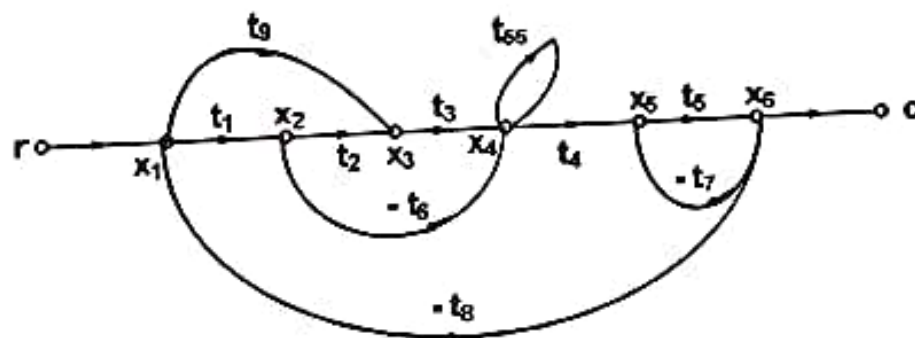

Fig.6.1. Example of a SFG model
**Input or source node:** It is a node that has only outgoing branches i.e. node 'r' in Fig.6.1.
**Output or sink node:** It is a node that has only incoming branches i.e. node 'c' in Fig.6.1.
**Chain node:** It is a node that has both incoming and outgoing branches i.e. nodes ' $x_1$ ', ' $x_2$ ', ' $x_3$ ', ' $x_4$ ', ' $x_5$ ' and ' $x_6$ ' in Fig.6.1.
**Gain or transmittance:** It is the relationship between variables denoted by two nodes or value of a branch. In Fig.6.1, transmittances are ' $t_1$ ', ' $t_2$ ', ' $t_3$ ', ' $t_4$ ', ' $t_5$ ' and ' $t_6$ '.
**Forward path:** It is a path from input node to output node without repeating any of the nodes in between them. In Fig.6.1, there are two forward paths, i.e. path-1: ' $r-x_1-x_2-x_3-x_4-x_5-x_6-c$ ' and path-2: ' $r-x_1-x_3-x_4-x_5-x_6-c$ '.
**Feedback path:** It is a path from output node or a node near output node to a node near input node without repeating any of the nodes in between them (Fig.6.1).
**Loop:** It is a closed path that starts from one node and reaches the same node after trading through other nodes. In Fig.6.1, there are four loops, i.e. loop-1: ' $x_2-x_3-x_4-x_2$ ', loop-2: ' $x_3-x_4-x_5-x_3$ ', loop-3: ' $x_1-x_2-x_3-x_4-x_5-x_6-x_1$ ' and loop-4: ' $x_1-x_3-x_4-x_5-x_6-x_1$ '.
**Self Loop:** It is a loop that starts from one node and reaches the same node without trading through other nodes i.e. loop in node ' $x_4$ ' with transmittance ' $t_{55}$ ' in Fig.6.1.
**Path gain:** It is the product of gains or transmittances of all branches of a forward path. In Fig.6.1, the path gains are  $P_1 = t_1 t_2 t_3 t_4 t_5$  (for path-1) and  $P_2 = t_1 t_3 t_4 t_5$  (for path-2).
**Loop gain:** It is the product of gains or transmittances of all branches of a loop. In Fig.6.1, there are four loops, i.e.  $L_1 = -t_2 t_3 t_4$ ,  $L_2 = -t_3 t_4 t_5$ ,  $L_3 = -t_1 t_2 t_3 t_4 t_5 t_6$ , and  $L_4 = -t_1 t_3 t_4 t_5 t_6$ .
**Dummy node:** If the first node is not an input node and/or the last node is not an output node than a node is connected before the existing first node and a node is connected after the existing last node with unity transmittances. These nodes are called dummy nodes. In Fig.6.1, 'r' and 'c' are the dummy nodes.
**Non-touching Loops:** Two or more loops are non-touching loops if they don't have any common nodes between them. In Fig.6.1,  $L_1$  and  $L_2$  are non-touching loops.
Find the overall transfer function of the system given in Fig.6.1 using Mason's gain formula.
In Fig.6.1,